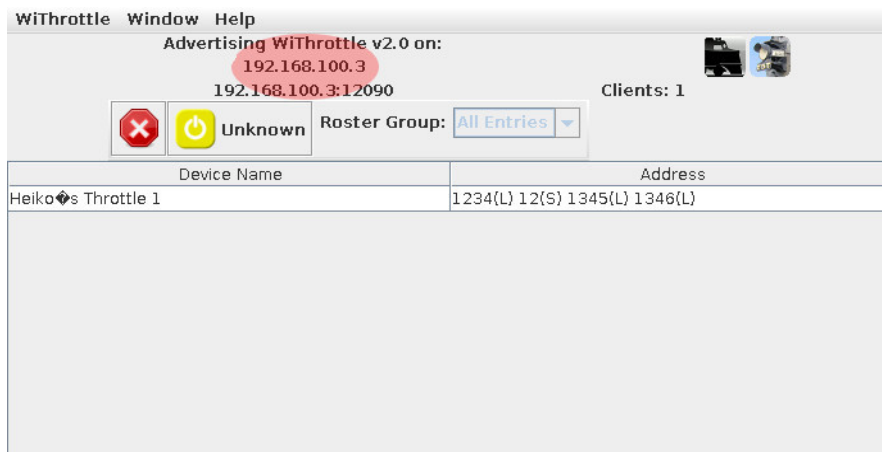

Figure 11: Screenshot of wiThrottle screen showing one throttle connected
In the second case, the throttle will change the last tuple of it’s IP address to .253 – so if the wireless network is configured with IP addresses in the *192.168.100.x*-range as highlighted in figure 11, any web browser can access the configuration at *http://192.168.100.253*.
**Throttle name:** This is a free-form identification string of the throttle. It shows up in the wiThrottle window of JMRI as shown in figure 11 and can be used to identify the throttle during configuration.
Right on top, the server settings can be found. The correct settings can be read from the JMRI withrottle server screen, as highlighted in figure 11. Normally the port does not need to be changed, as 12090 is the default setting.